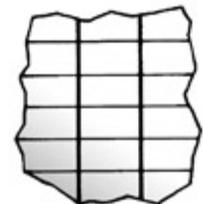

FIG. 3 - If you're using 2x4 panels, choose from either a standard or reversed pattern.
- d) For the 2x4 pattern, decide whether you want to install the patterns in a standard or reverse pattern (Fig. 3). Each pattern offers a different appearance.